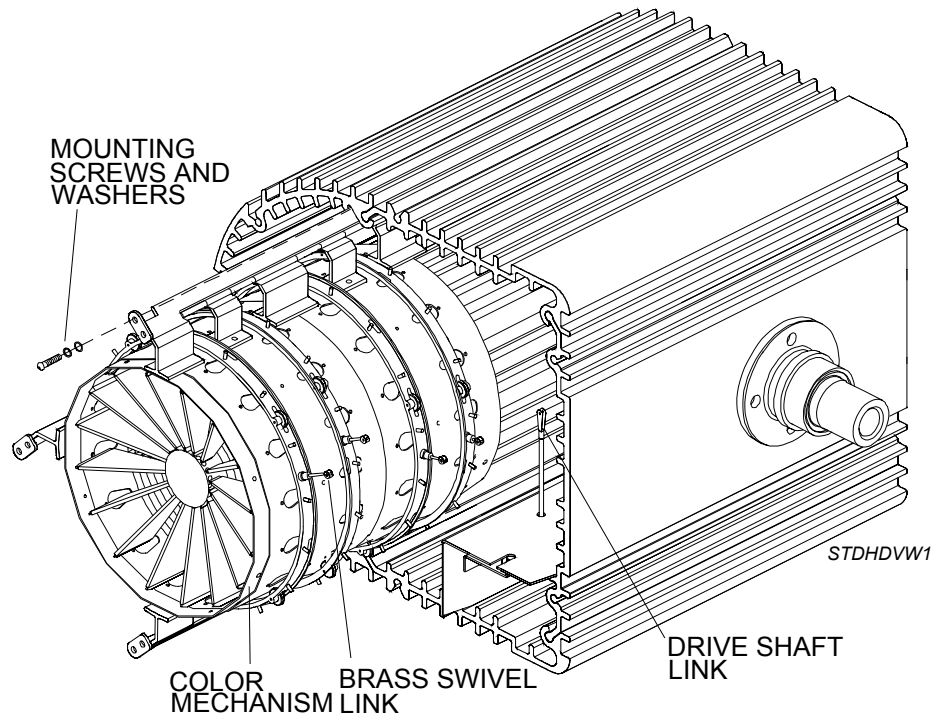

Figure 6.6 - Replacing the Color Mechanism.
3. Locate three screws securing color mechanism mounting brackets to walls of head enclosure (Figure 6.6). (Each mounting bracket contains two screws, but it is only necessary to remove the one entering wall of head enclosure). Using #2 Phillips screwdriver, remove three screws and lock washers.